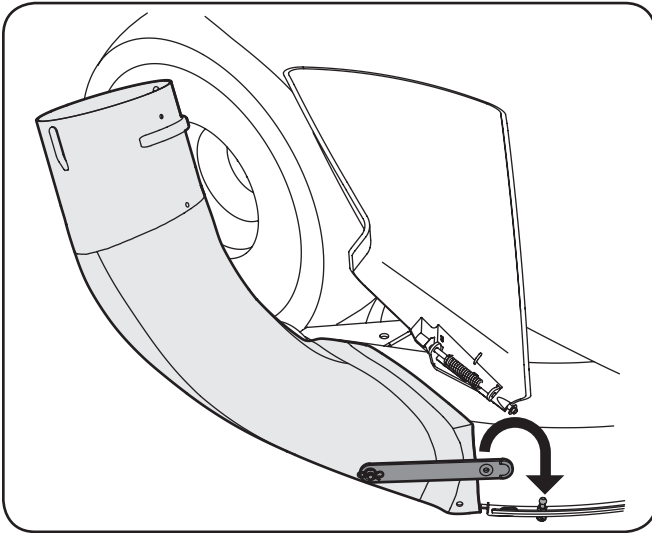

Figure 4-24
12. Secure the chute elbow to the tractor's deck by hooking the chute strap onto the ball pin installed earlier on the deck. See Figure 4-24.